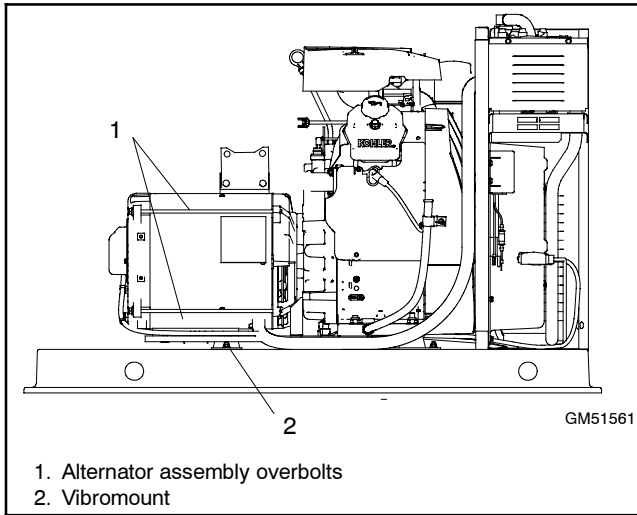

Figure 6-22 Generator Set, Right Side
- d. Lower the end of the generator set and reinstall the screws and washers that secure the vibromount mounting plate to the generator set skid. See Figure 6-22.
5. Tighten the four alternator assembly overbolts to 7 Nm (60 in. lb.). See Figure 6-22.